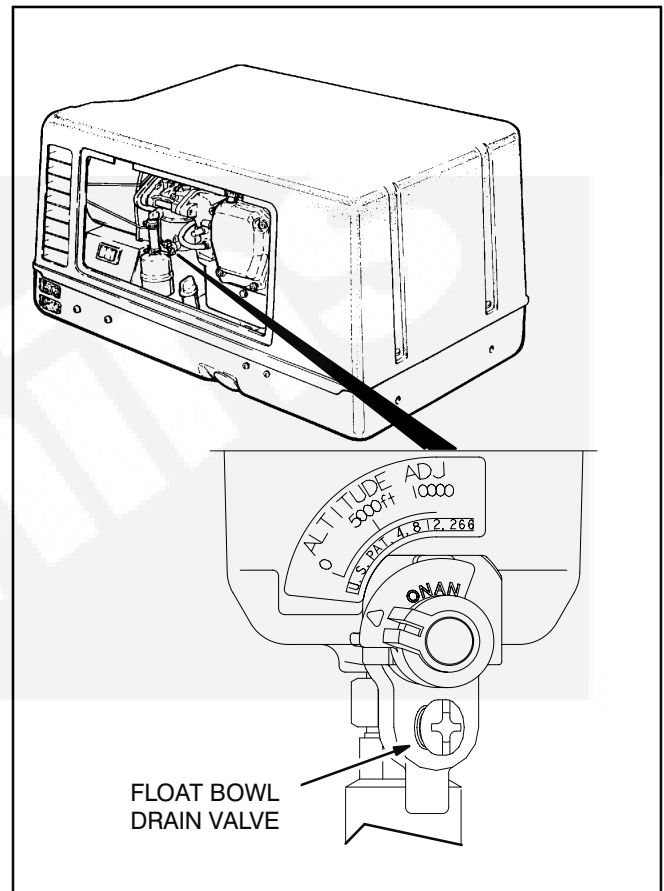

FIGURE 9. CARBURETOR DRAIN VALVE
8. **Gasoline Models** – Draining the carburetor float bowl prevents deposits of gum from clogging the tiny passages in the carburetor as the gasoline in the bowl evaporates during storage. If the carburetor has a drain (Figure 9), drain it as follows: